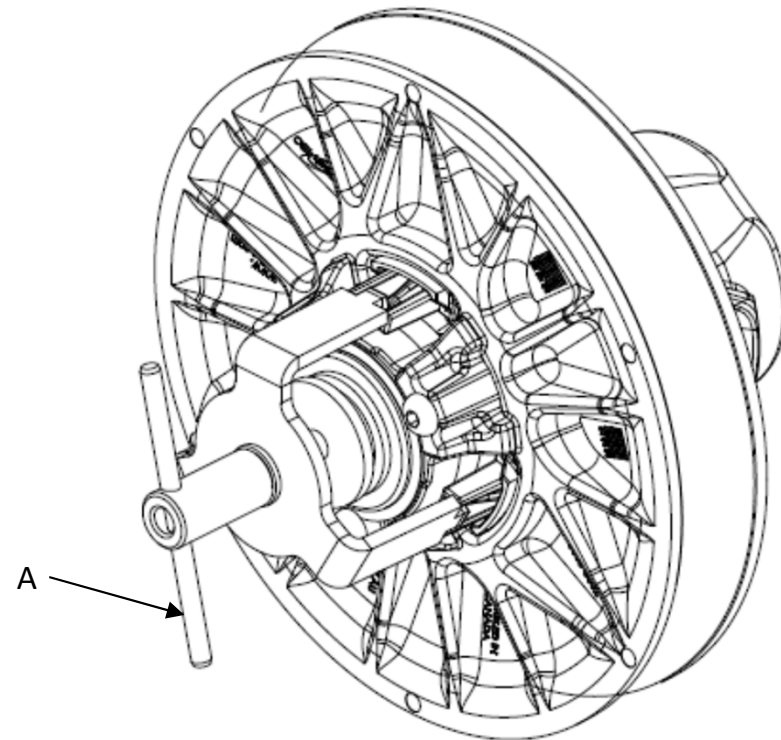

Figure 13
- If the drive belt is installed, use the flange spreader "A", as shown in figure 13, to remove the drive belt.